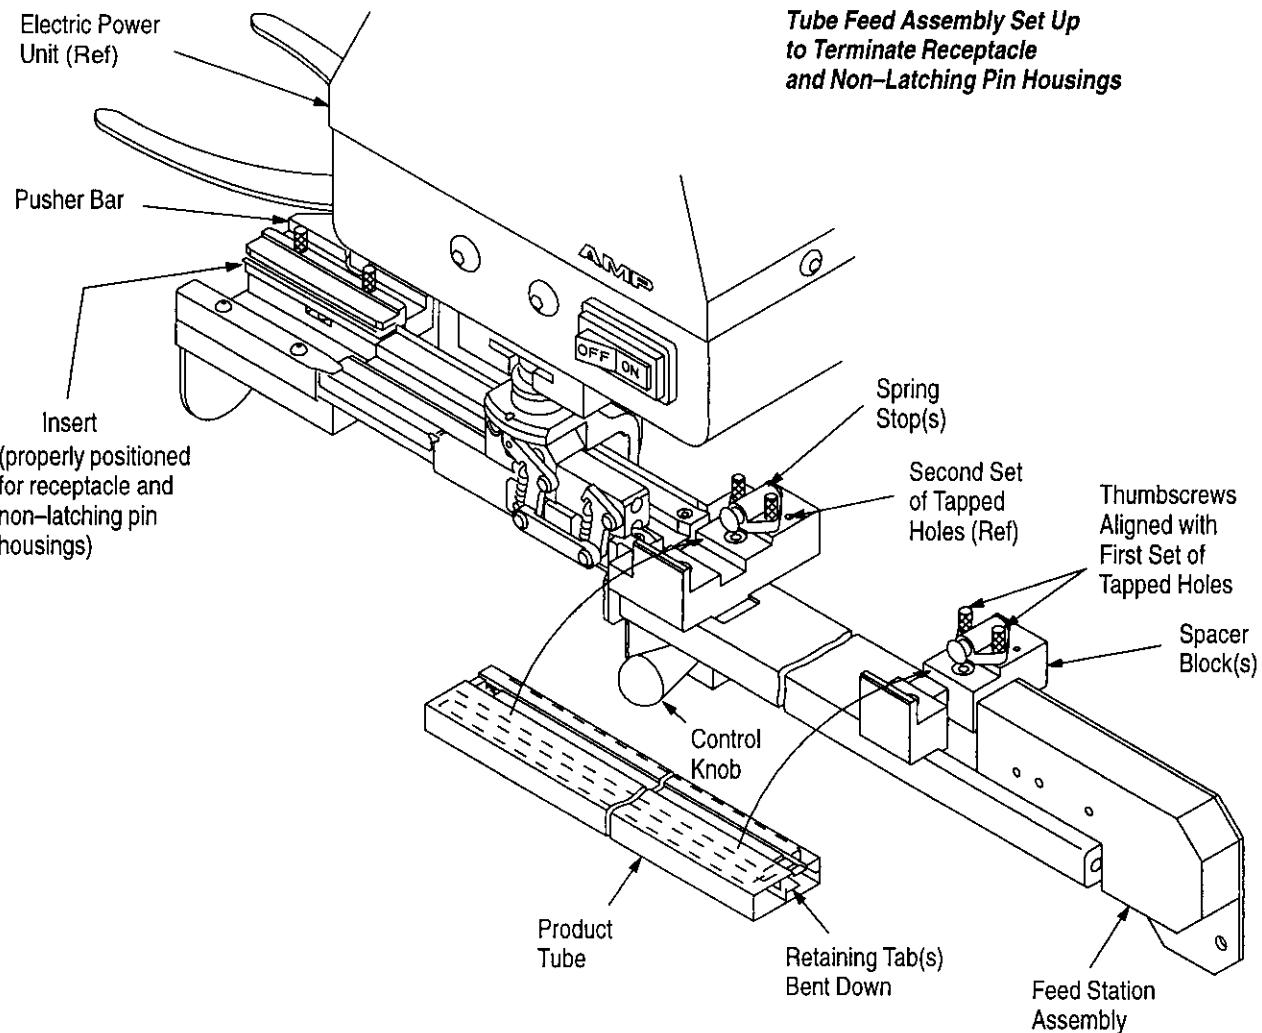

Figure 2
This instruction sheet covers the setup and operation of AMP\* MTE Tube Feed Assembly 856675-1 designed to be used with AMP Electric Power Unit 931800-1, as shown in Figure 2. The assembly terminates unstripped wire in the shrouded pin and receptacle contacts of AMPMODU MTE housings and then seats the contacts within the housing. For setup and operation procedures of the power unit, refer to AMP customer manual 409-5746.
### 3.1. Setup (Figure 2)
### A. Receptacle and Nonlatching Pin Housings (Figure 2)
2. Move control knob to the left (toward the seating station) until the latch engages with the sheet metal block at the far end. Place the product tube between the spacer blocks, as shown in Figure 2.
3. Reposition spring stop onto the spacer block, aligning the thumbscrews over the **first** set of tapped holes on the spacer block. See Figure 2.
5. Check position of insert on pusher bar. The insert must be positioned for the appropriate product, as shown in Figure 2. To re-adjust the insert, remove the thumbscrews, rotate the insert to the proper position; then retighten the thumbscrews.
*Adjustment of the feed index adjustment screw requires the removal of feed station assembly 854650-1 (refer to Figure 2). Remove the two screws that secure the feed station assembly to the insertion station assembly and place the feed station assembly to the side.*